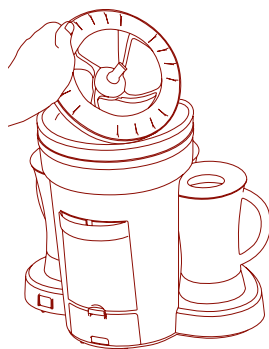

*Figure 4*
3. To remove the hopper cover, simply lift up at either cut out area in front of the ice hopper release catches. (Figure 4)
4. To remove the Shaving Paddle, unscrew the Shaving Paddle Thumb Screw counter-clockwise until loosened (**Do not separate from shaving paddle**), then remove the Shaving Paddle by lifting straight up (Figure 4), exposing the Ice Hopper and Shaving Blade. To reassemble, place the Shaving Paddle back into position, and screw down the Shaving Paddle Thumb Screw clockwise until tightened properly. (Figure 5).